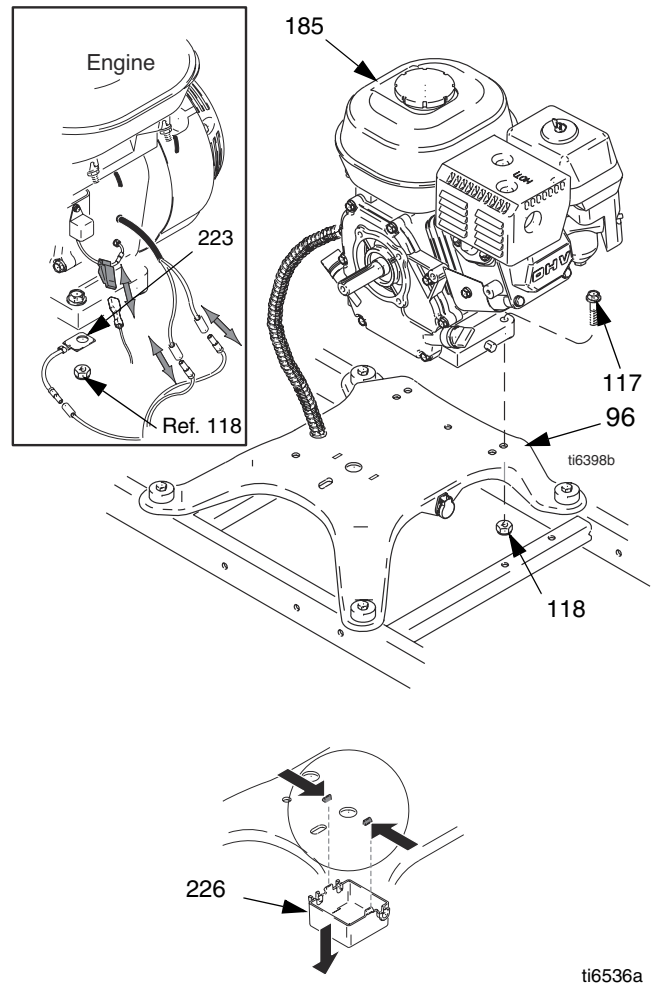

FIG. 12
2. FIG. 12. Remove junction box (226).
13. FIG. 12. Install junction box (226).
4. FIG. 12. Remove screw (177). Remove two screws (117), locknuts (118), and ground conductor (223, 260) from base of engine (185).
1. FIG. 12. Lift engine carefully and place on engine mount plate (96).
2. Install two screws (117) and ground conductor (223, 260) in base of engine and secure with locknuts (118). Torque to 20 to 30 ft-lb.